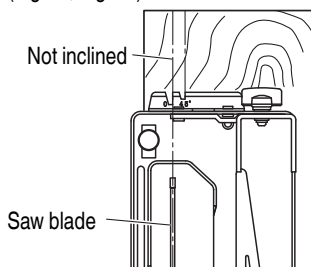
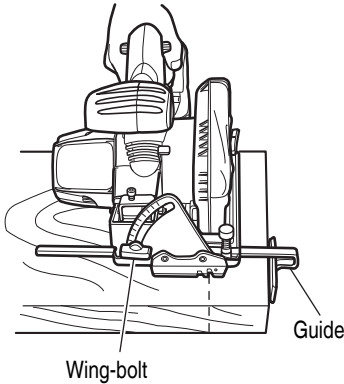
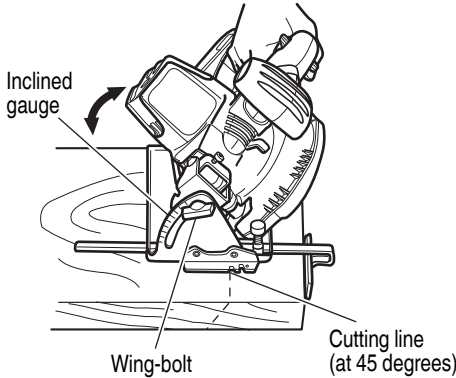

Fig. 11 <Top View>
Fig. 12 Not inclined
Fig. 13
- (1) Place the base on the material, then align the premarked line and the saw blade with the notch at the front of the base (Fig. 11).
- (2) When the base is not inclined, use the large notch (Fig. 11, Fig. 12).
If the base is inclined (45 degrees), use the small notch (Fig. 11, Fig. 13).